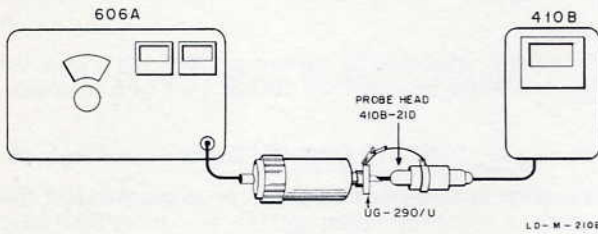

Figure 4-5. Output Level Frequency Response
a. Connect ac probe of  $\Phi$  Model 410B High Frequency VTVM to output termination as shown in figure 4-5. Solder tip of Model 410B ac probe to center conductor of UG-290/U connector. Clip ground lead